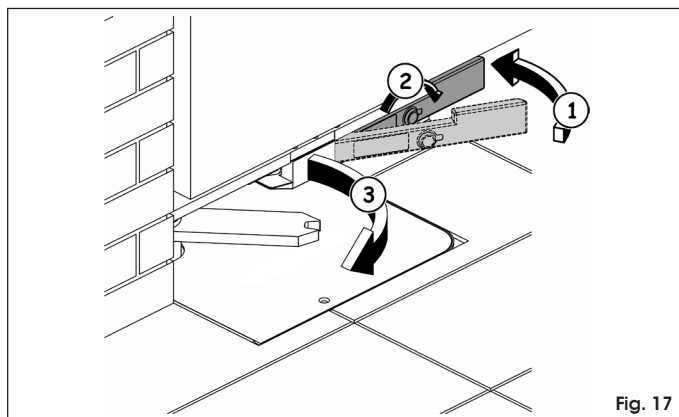

Fig. 17
- push the lever back into its home position (Fig. 17 rif. ①)
- insert the release key in the lock and turn it in the direction opposite the post, as far as it will go (Fig. 17 rif. ②)
- operate the leaf manually until the lock is engaged in the locking bracket (Fig. 17 rif. ③)